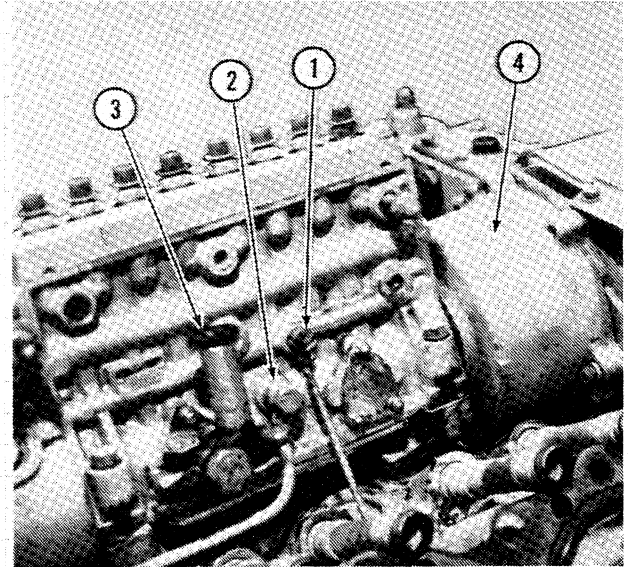

FIG. 153 INJECTION PUMP AND LUBRICATION LINES T-82333
NOTE: An external oil supply line supplies the fuel injection pump sump with lubricating oil, Fig. 153 (1). A constant oil level is maintained by an orifice in the oil return line (2).
A hand operated primer pump, built into the transfer pump, Fig. 153 (3) provides a way to prime the low pressure system and a means of bleeding air from the supply lines (refer to the appropriate Operation and Maintenance Instruction Manual for fuel system priming).